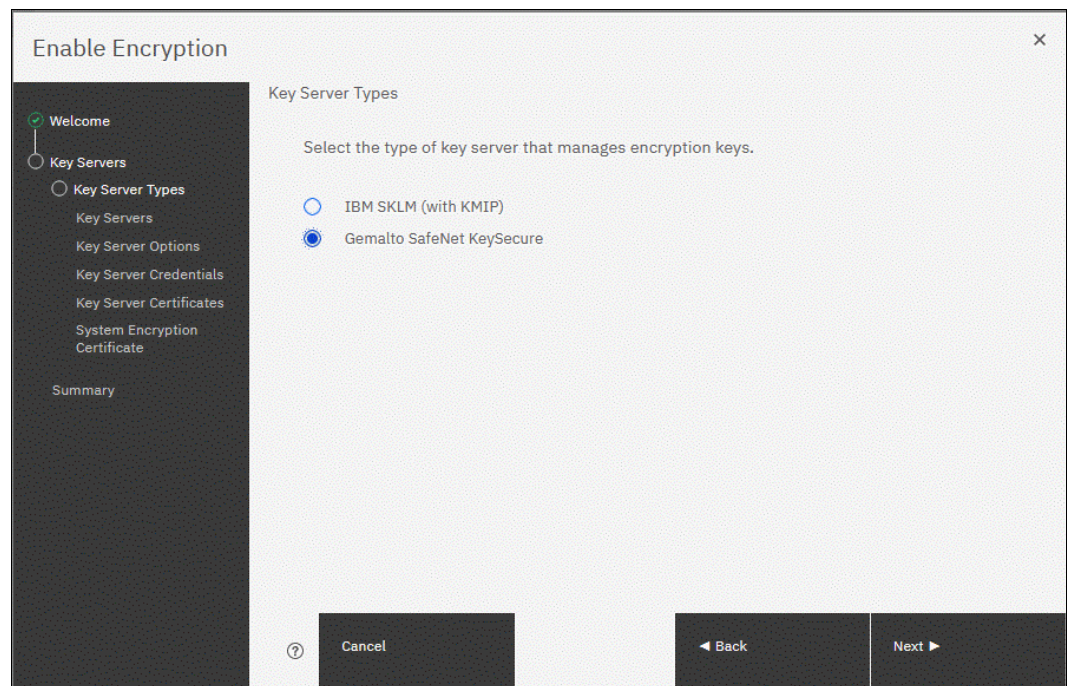

Figure 12-38 Selecting Gemalto SafeNet KeySecure as key server type
3. In the next window, you can choose between IBM SGKLM or Gemalto SafeNet KeySecure server types, as shown in Figure 12-38. Select **Gemalto SafeNet KeySecure** and click **Next**.